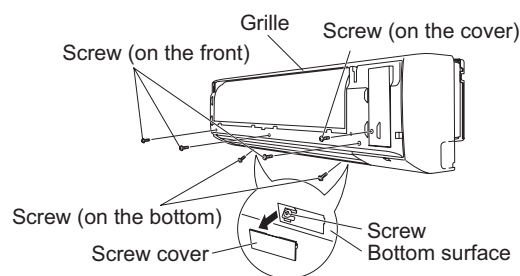

Fig. 2-242
- (3) Remove the 3 screws from the front of the unit and remove the screw covers on the bottom surface. Then remove the 2 screws. (Fig. 2-242)
- (4) Remove the screw on the right side cover plate and remove the cover. (Fig. 2-242)